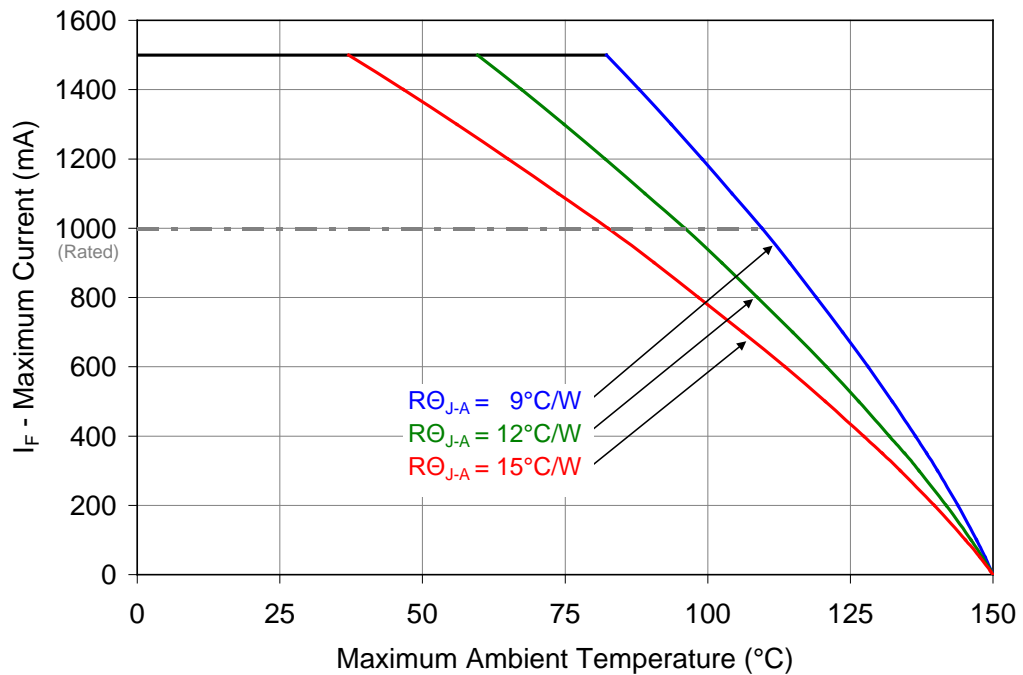

Figure 11: Maximum forward current vs. ambient temperature based on T_{J(MAX)} = 150°C.
- Maximum DC forward current is determined by the overall thermal resistance and ambient temperature. Follow the curves in Figure 11 for current derating.
Notes for Figure 11: